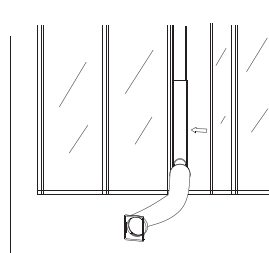

Fig 6
6. Install the exhaust air duct, window kit, and accessories onto the window. Then, close the window in the direction indicated by the arrow in Figure 6, ensuring the window kit is held securely in place.